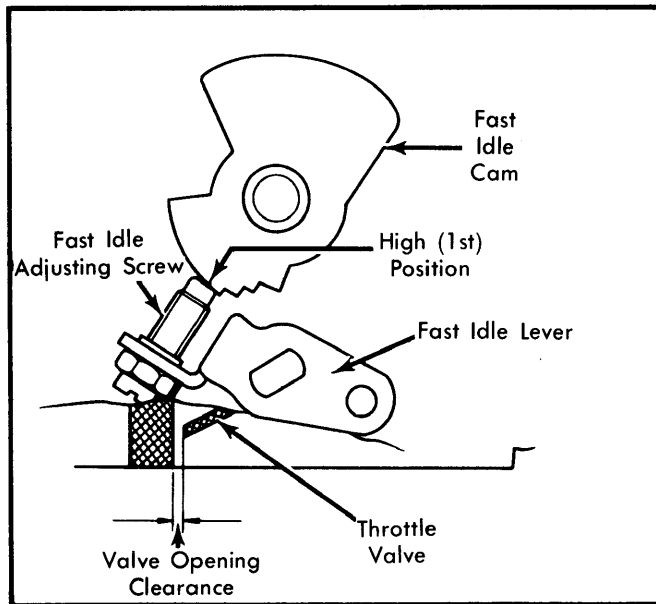

Fig. 2 Measuring Throttle Valve Opening Angle
1) Close choke valve fully. Place fast idle screw on high (1st) step of fast idle cam. See Fig. 2. Adjust throttle valve opening clearance by turning the adjusting screw clockwise to increase or counterclockwise to decrease the opening clearance.